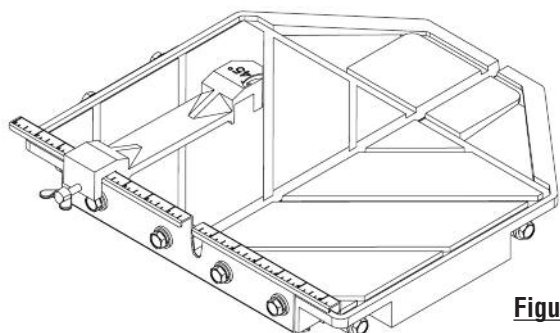

Figure 3
1. The ruler guide has inches marked along the top to allow convenient measurements and to promote precision cuts. (see figure 3)